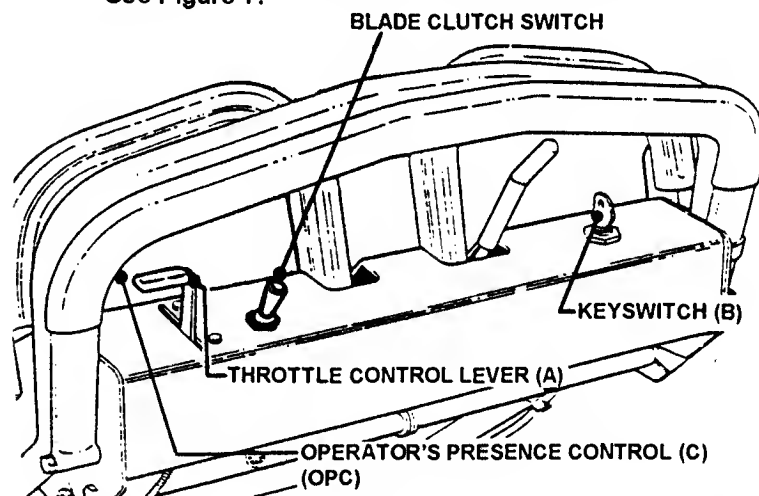

FIGURE 7
- 4a. **LOOP HANDLE** -Pull Blade Clutch Switch backward (toward operator) to the OFF position. See Figure 7.
9. Place Transmission Shift Lever in No. 1 position (first gear). See Figure 7.
- 10a. **LOOP HANDLE** - Push Blade Clutch Switch/Lever to **ON** position. See Figure 7.